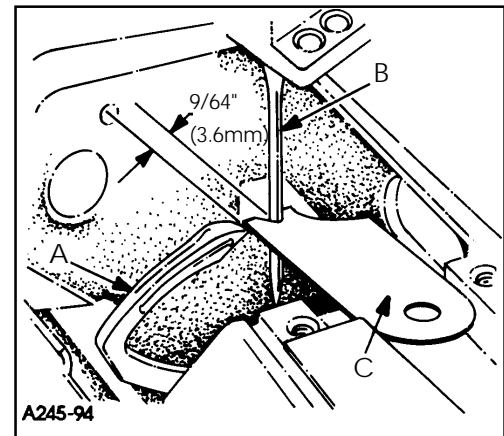
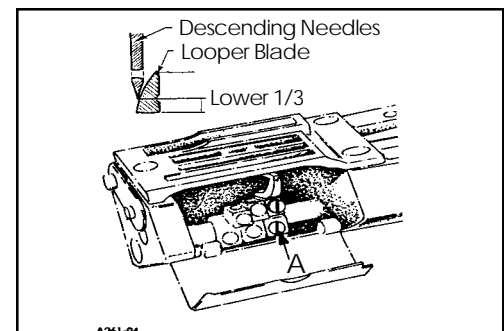

FIG. 6
FIG. 7
Insert a new set of needles, type and size specified. Always adjust the looper (A, Fig. 6) for the left needle first. Set the looper so that the distance from the center of the needle (B) to the point of the looper (A) is  $9/64$ " (3.6mm) when the looper is at its farthest position to the left. Looper gauge (C) No. 21225-9/64 can be used advantageously in making this adjustment. If adjustment is required, loosen screw (A, Fig. 7) in looper holder, permitting movement in either direction to attain the  $9/64$ " (3.6mm) dimension as shown in Fig. 6. Retighten screw (A, Fig. 7). Repeat for other needles and loopers.
Rotate handwheel in operating direction to assure that the looper point passes to the rear of the needle to touch but not to deflect the needle. This adjustment can be made by loosening screw (A, Fig. 7) in looper holder. Looper holder can be moved front to back to attain looper to needle setting. Always check the  $9/64$ " (3.6mm) looper gauge setting after setting the looper to the back of the needle, and conversely, always check the setting of the looper to the back of the needle after setting the  $9/64$ " (3.6mm) looper gauge.
The amount of looper avoid has been set at the factory to .110" (2.8mm). If it becomes necessary to adjust the amount of avoid it is recommended as a starting point, to have the points of the descending needles contact the back of the lower 1/3 of the back of the looper blade. (See Fig. 7).